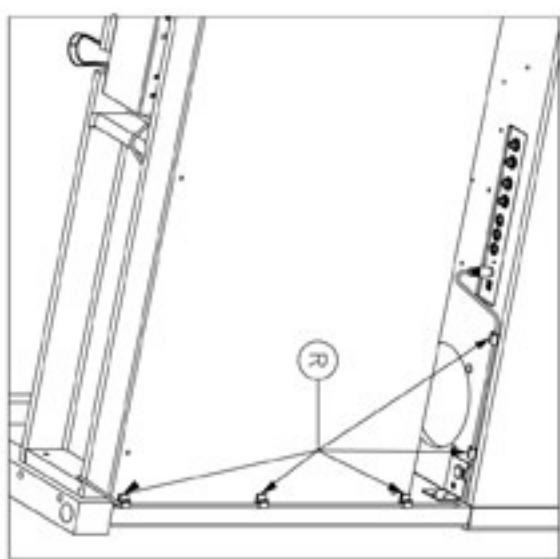

Fig. 4
- 10)** Attach the adhesive clamps (R) as shown in Fig.4
- 11)** Insert the MINI DIN pedals cable plug into the proper socket of I/O group under the piano cabinet (A) and fix the cable on the adhesive clamp (R) of Fig. 4.
- 12)** Place the piano in its final location and adjust on floor the clog (G) of pedals group.